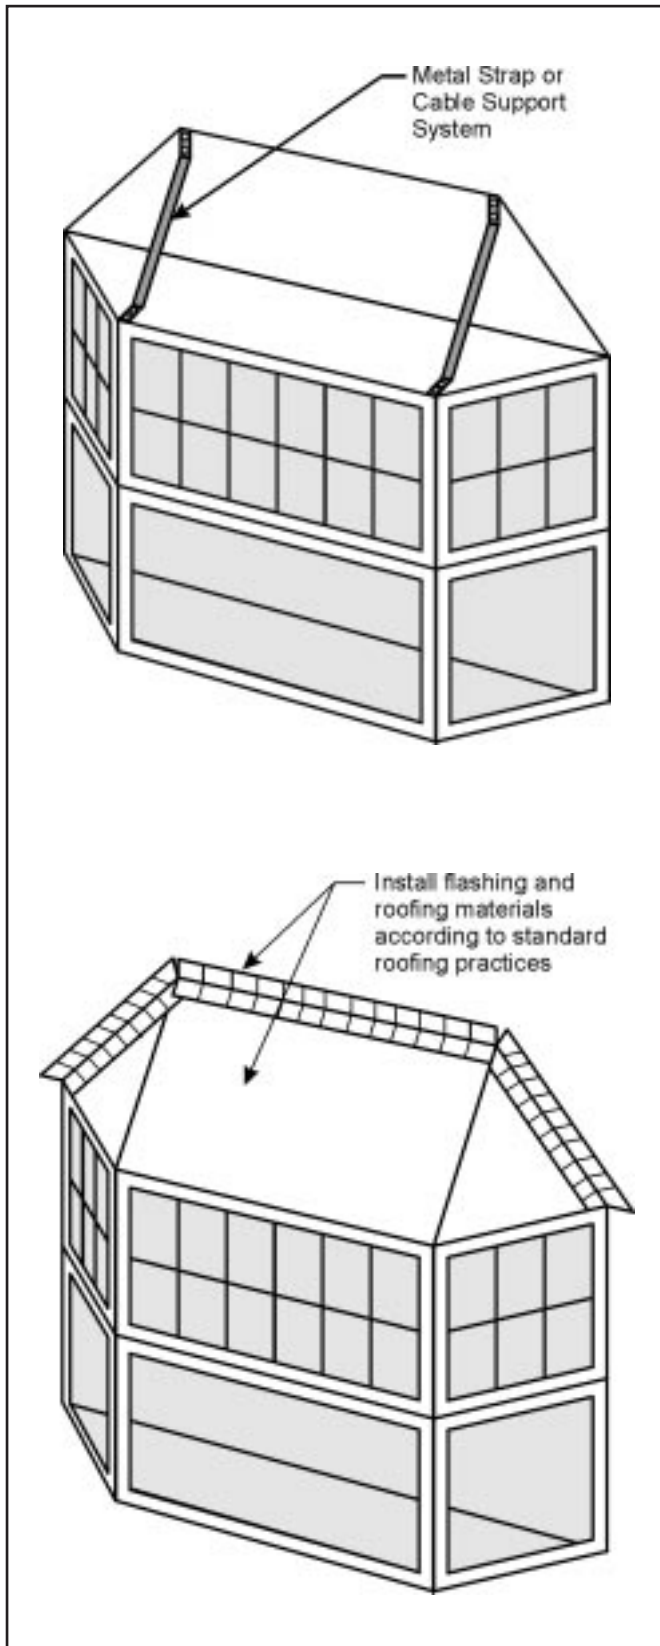

Figure 17-11 Metal Support Strap and Roof Structure
5. At each end of the unit, angle the strap down to the headboard at the corner or hollow mullion (adjacent to where the roof rafter will be installed). With the strap pulled taught, attach it to the headboard with one or more screws (see *Figure 17-11*).